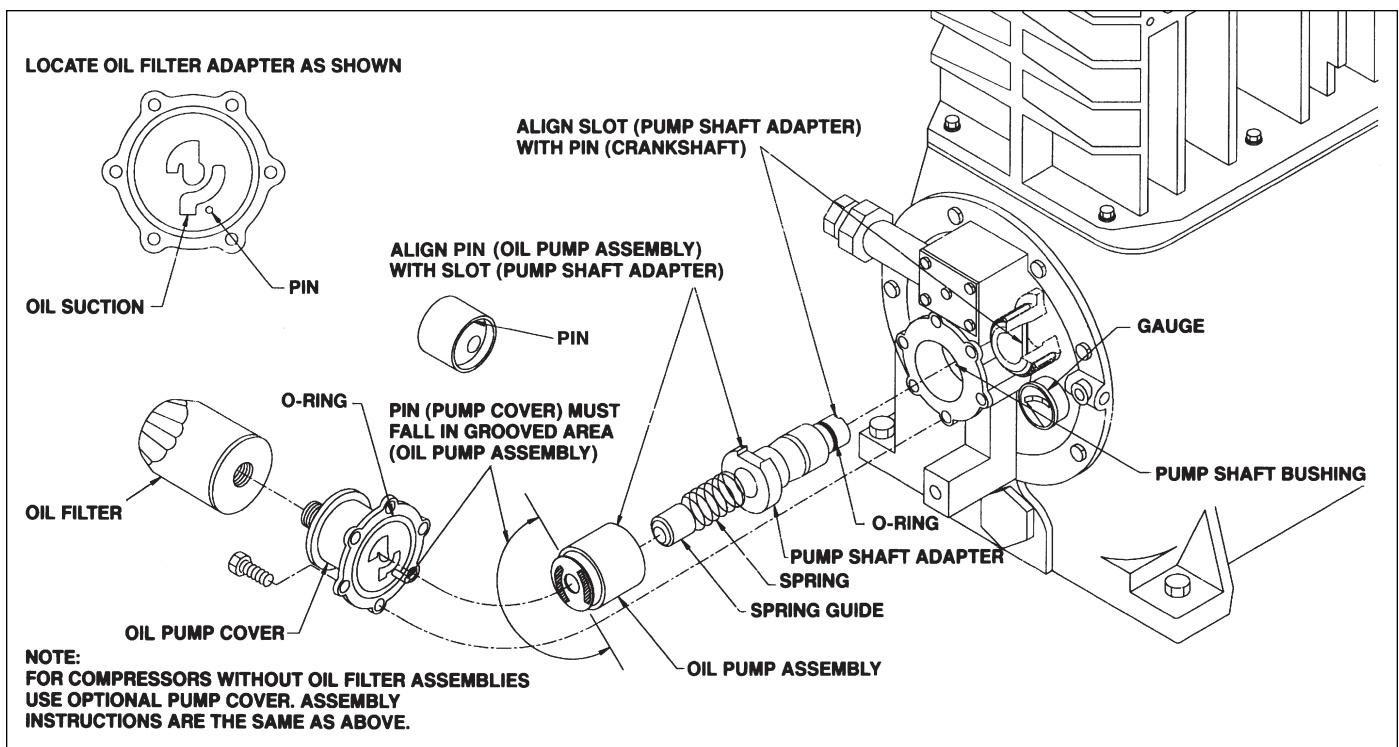

Figure 4.8: Oil Pump Inspection
1. To check the oil pump, unbolt the pump cover and remove the oil pump, spring guide, spring and oil pump shaft adapter as shown in figure 4.8.
4. Before reassembling the oil pump mechanism, replace the O-rings in the oil pump cover and on the oil pump shaft adapter (see figure 4.8).
8. Install the pump cover so the pin on the case is in the opening on the oil pump assembly as shown in figure 4.8. When you are sure the pin is properly aligned, install the cover bolts finger tight. If alignment is correct, the pump cover will mount flush to the bearing carrier. If it does not, re-check the pin alignment.